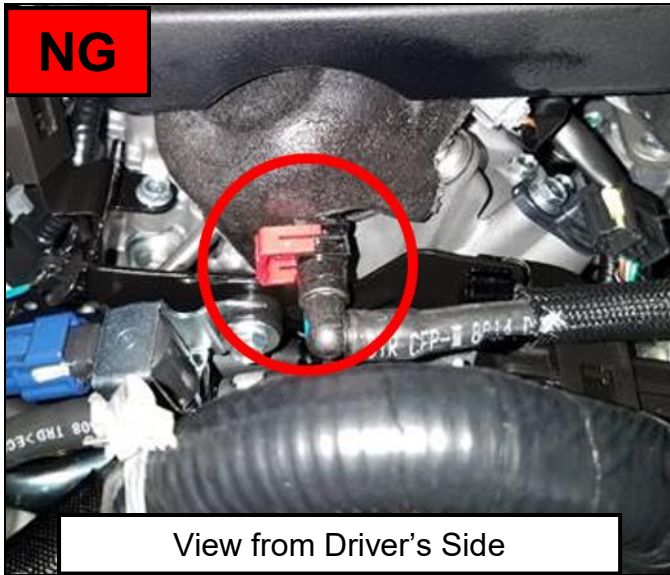

Figure 5
5. Inspect the "Fuel Feed Tube Clip" using the Criteria below (Figure 5, 6).
- If the "**Fuel Feed Tube Clip**" condition is out (Not Fully Seated) similar to Figure 5 and/or 7, take a clear picture and follow the instructions in Step 6.
Email a clear picture of "NG" Clip condition similar to Figure 5, to nafgasupport@nissan-usa.com.